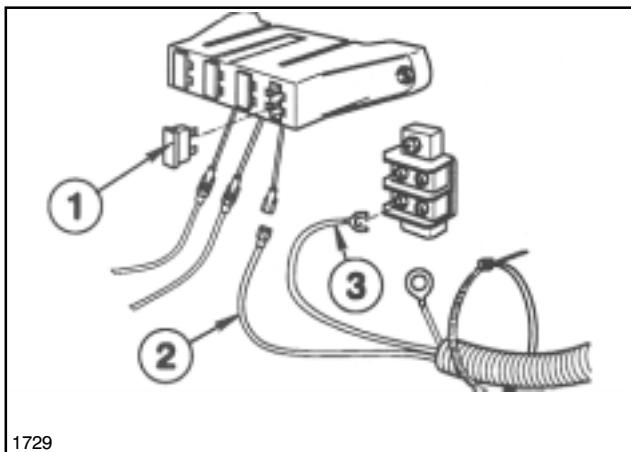

FIG. 4
- Route Harness to Fuse Block under Operator Seat. Connect power and ground wires as shown in FIG. 4.